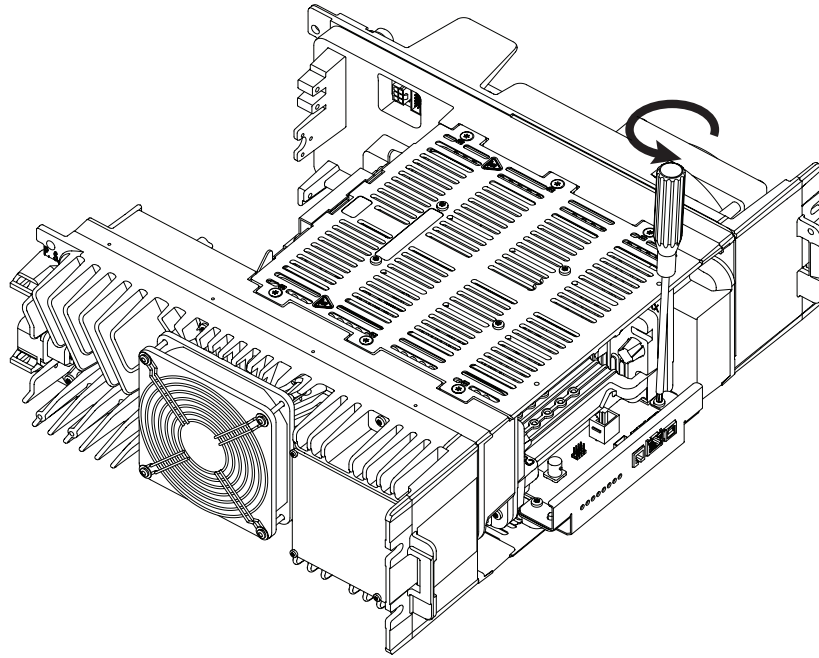

Figure 9-3. Removing two screws securing the Transceiver Assembly
3. Remove the two screws securing the Transceiver (SCM, Exciter, and Receiver modules) to the bottom plate. Pull forward on the cast knobs, carefully slide the assembly out of the station (Refer to Figure 9-3) and place it aside.
7. Secure the Transceiver Assembly to the bottom plate by fastening the screws in Step 3 (Refer to Figure 9-3).